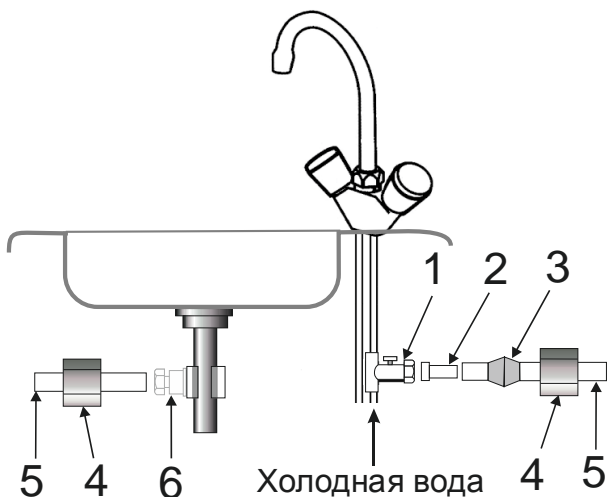

Fig.6. Cold water supply tie-in and drainage outlet tie-in.
- 8.12. Attach drainage bracket on draining pipe of wash-basin **above siphon (mandatory condition for long service life of membrane)** (fig.6) and drill a blind hole in the pipe (only one wall) \varnothing 6 mm using hole in bracket as a guide.